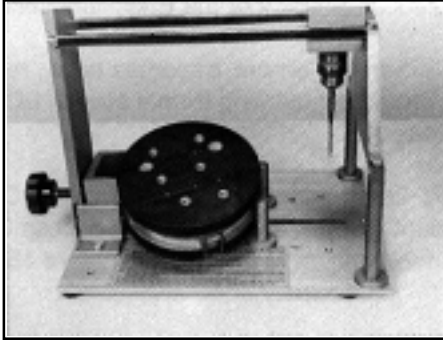

FIGURE 9 – END PLATE WITH HOLES DRILLED
- 5.06** If additional holes are needed, repeat preceding steps 5.00-5.05. (Figure 9)